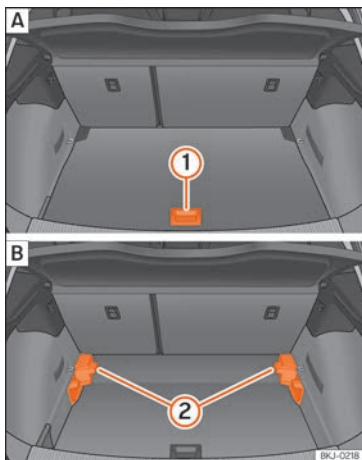

Fig. 166 Variable boot floor: [A] raised position; [B] lowered position.
- Lift the floor using handle »» Fig. 166 ① and pull it back until the front of the floor has fully passed the supports ②.
- Move the floor forward over the supports as far as the rear seat backrest and then lower the floor with the handle ①.